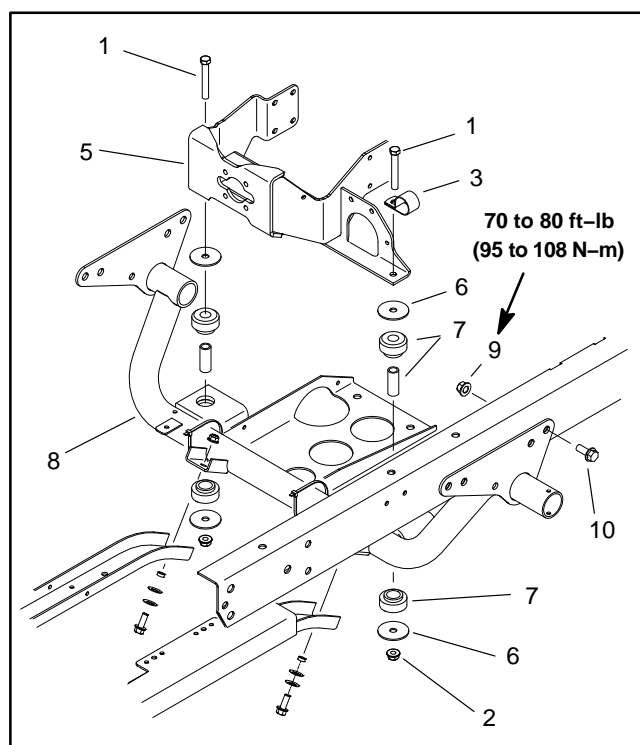

Figure 13
15. Loosen and remove two (2) flange nuts, snubbing washers and cap screws that secure engine mounts to engine support (Fig. 13).
6. Make sure that snubbing washer is positioned on top of both engine mounts (Fig. 13).
10. Secure engine mount to engine support with two (2) cap screws, snubbing washers and flange nuts (Fig. 13).